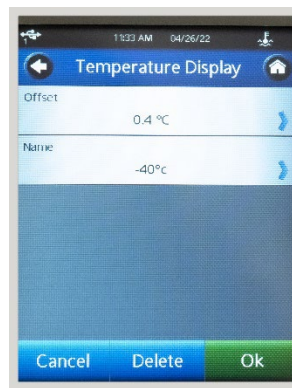

Figure 59: Screen to Change Temperature Offset Name and Value
8. This opens the screen where you can change the temperature offset name or value. See Figure 59.